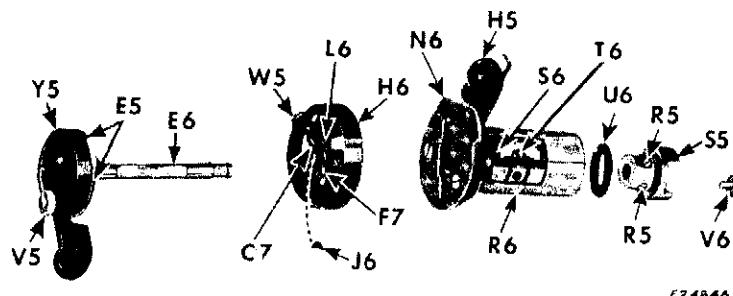
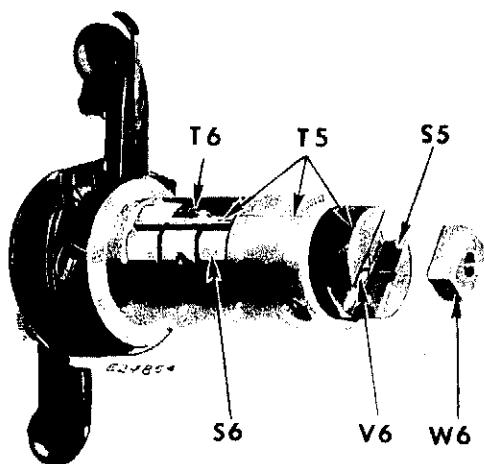
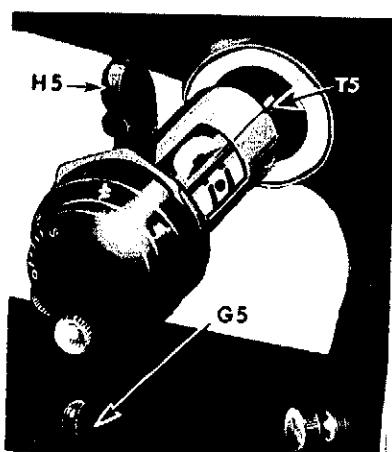

Fig. 141. Completing Assembly of Bight Control Mechanism
Fig. 143. Aligning Eccentric and Slide with Bearing Sleeve
Fig. 144. Installing Bight Control Mechanism
## COMPLETING ASSEMBLY See Figs. 141 and 142
22. Set bight lever **G5**, Fig. 144 at "O" position. Loosen bight limit screw **V5**, Fig. 141 to release stop-shoe. Slide the stop-shoe until it closes the recess **E5** while maintaining lever **G5** at "O" position. Lock bight at "O" by retightening stop screw **E5**.
23. Set position lever **H5**, Fig. 144 at central position. Align timing mark on slide with timing marks on eccentric and sleeve as shown at **T5**, Figs. 143 and 144. Then set bight lever in
**NOTE:** The two bearing surfaces of the slide **S5** and slide block **W6**, Fig. 143 can be easily detected by their brightness and smoothness in comparison with non-bearing surfaces.
Set both control levers **G5** and **H5** at neutral position, as shown in Fig. 144, and slide entire assembly into arm.